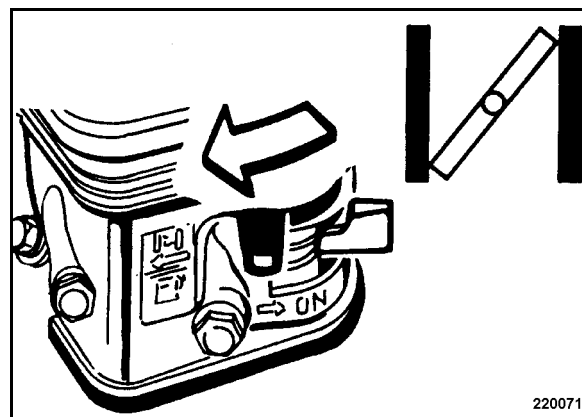

Fig. 25
- If the engine stops again after approx. 3 to 5 seconds, close the choke again with the lever (Fig. 25) and repeat the starting process.